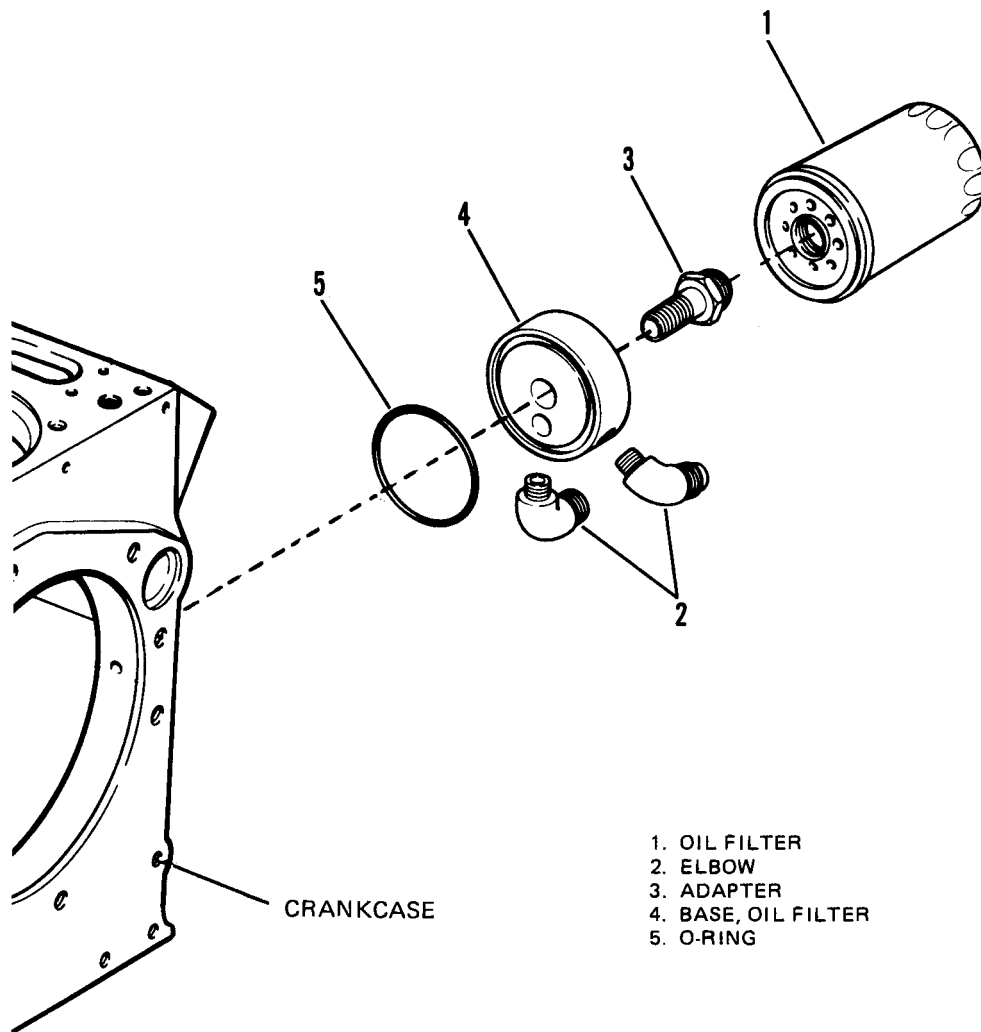

Figure 7-33. Oil Filter Adapter.
- (1) Drain the engine of engine oil, refer to TM 05926B/06509B-12/TM 5-6115-615-12/NAVFAC P-8-646-12/TO 35C2-3-386-31 manual, paragraph 4-7.
(2) Remove oil filter (1, Figure 7-33).